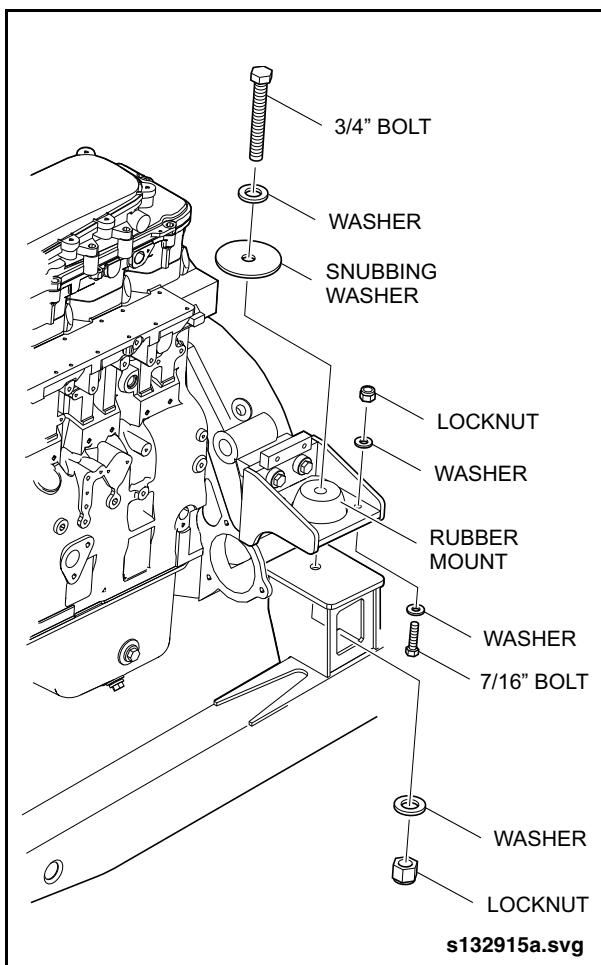

Fig. 4-12: Rear Engine Mount
5. Remove the 3/4" bolt, washers, snubbing washer, and lock nut that secure the rubber mount to the side engine mount bracket and frame rail bracket. Note the location of the snubbing washer for re-installation. See "Fig. 4-12: Rear Engine Mount" on page 18.